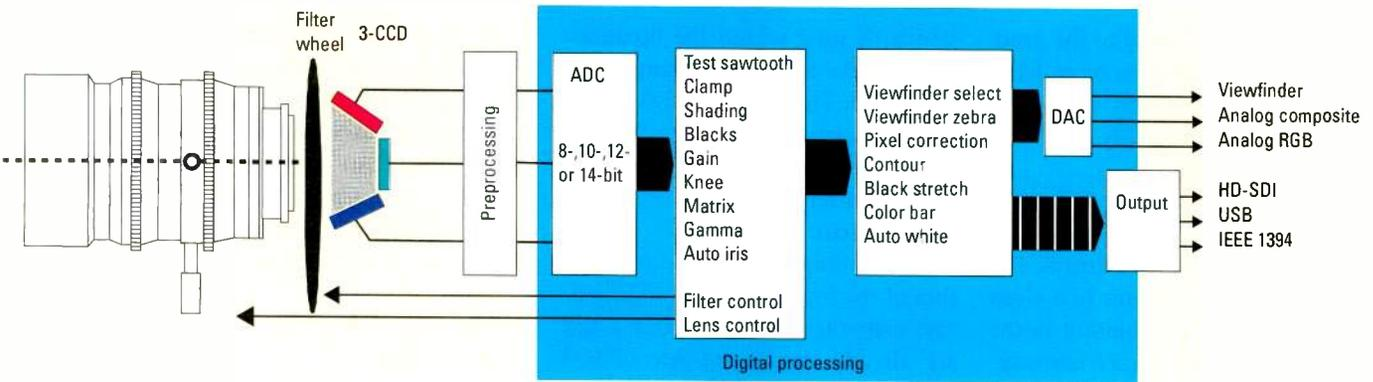

Figure 1. 3-CCD camera with separate video processing
CCD will be around for the coming years. (See Figure 1.) CMOS probably needs the same process steps as CCD. It could mean that the price in the end will be the same as CCD, but by that time, it should outperform it.
**Figure 1. Shown here is Harris' ONE approach to interoperability of PSIP-related systems. The use of industry standards such as BXF and PMCP means any systems compliant with these protocols fit into this workflow.**